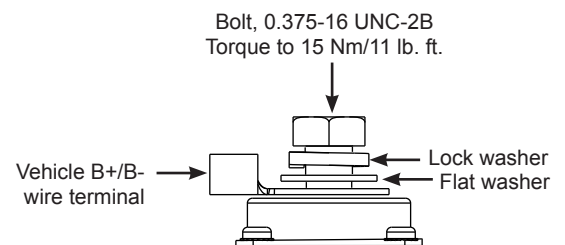

Figure 2: B+/B- Terminal Hardware Stacking Order
5. Connect vehicle B+ cable to alternator B+ terminal. Install hardware in stacking order shown in Figure 2. Torque B+ terminal hardware to 15 Nm/11 lb. ft.